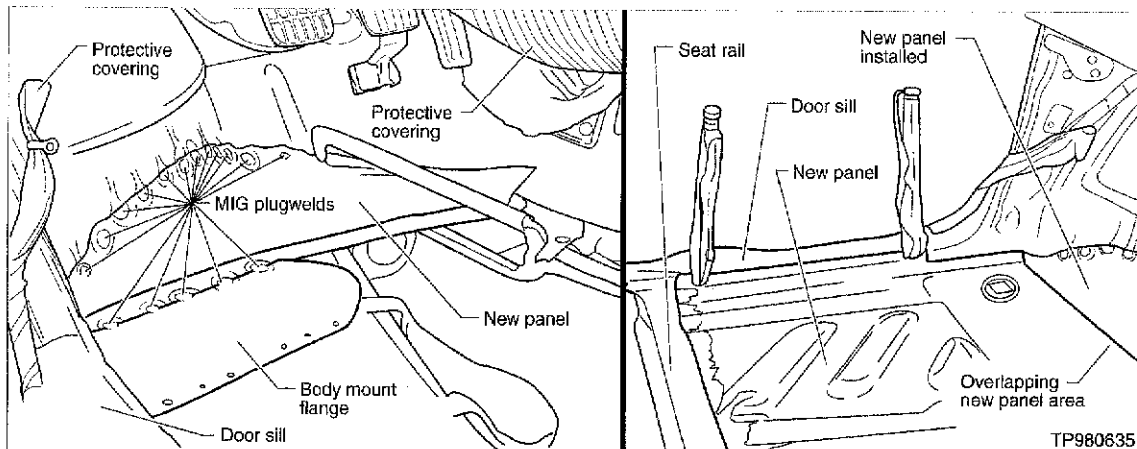

Figure 5
15. Use a MIG welder to plug weld the replacement panel(s) to the floor (see Figure 5).